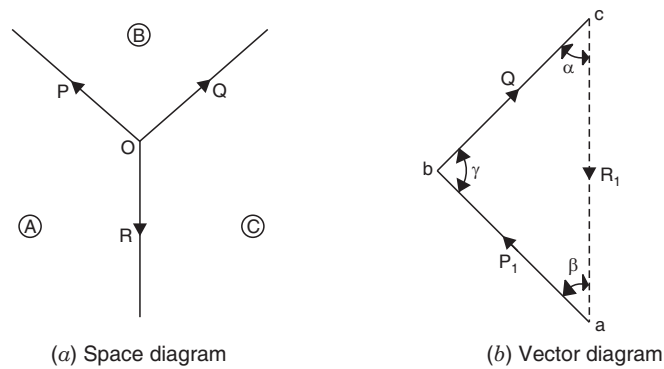

Fig. 1.2
10. Select a suitable scale and draw the line  $ab$  parallel to force  $P$  and cut it equal to the magnitude of  $P$ . From  $b$  draw the line  $bc$  parallel to force  $Q$  and cut it equal to the magnitude of  $Q$  (Fig. 1.2). Calculate the magnitude of  $ca$  i.e.,  $R_1$  which will be equal to the third force  $R$  which proves the triangle law of forces.